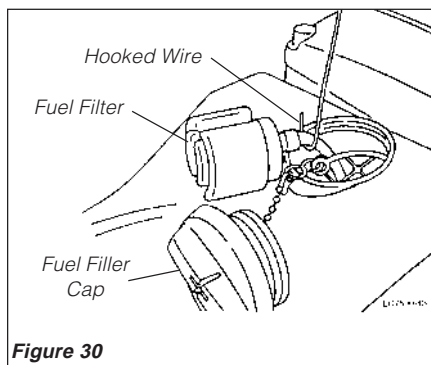

Figure 30
2. Take the filter out from the fuel opening by using a hooked wire. If the filter is hard and clogged with debris, replace it with a new one. See Figure 30.